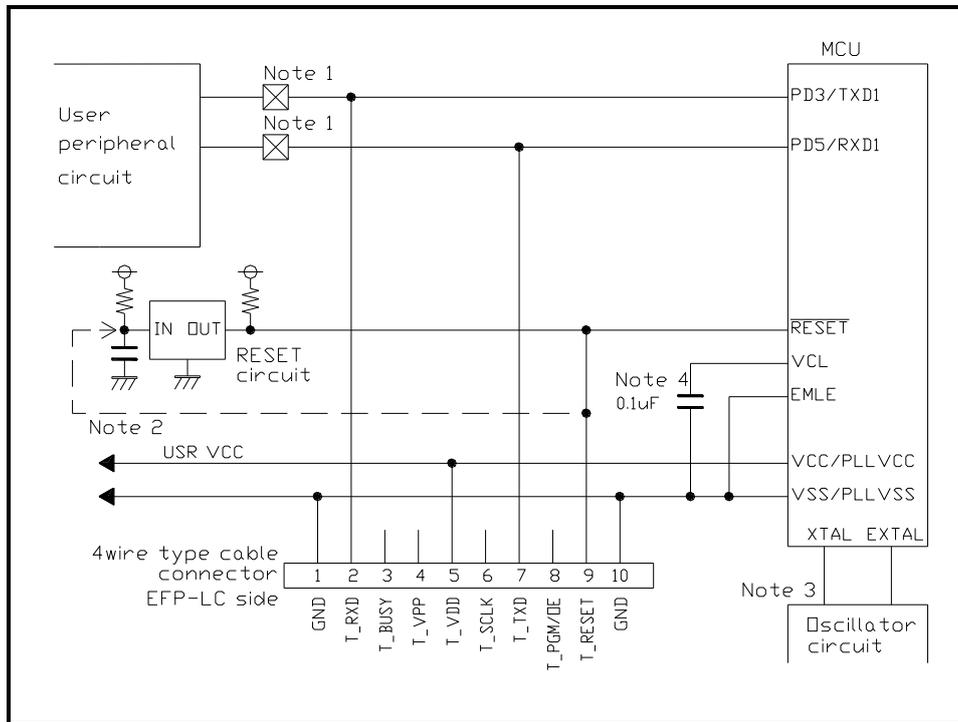

Fig 5. 1 User Target Peripheral Circuit Example (For RX62T)
A recommended sample of user target MCU peripheral circuit for RX62T is shown in Fig 5. 1 .
- 1 : If the user peripheral circuit is an output circuit, you should disconnect by jumper to avoid output collision when executing serial I/O mode. (see Fig 5. 2)